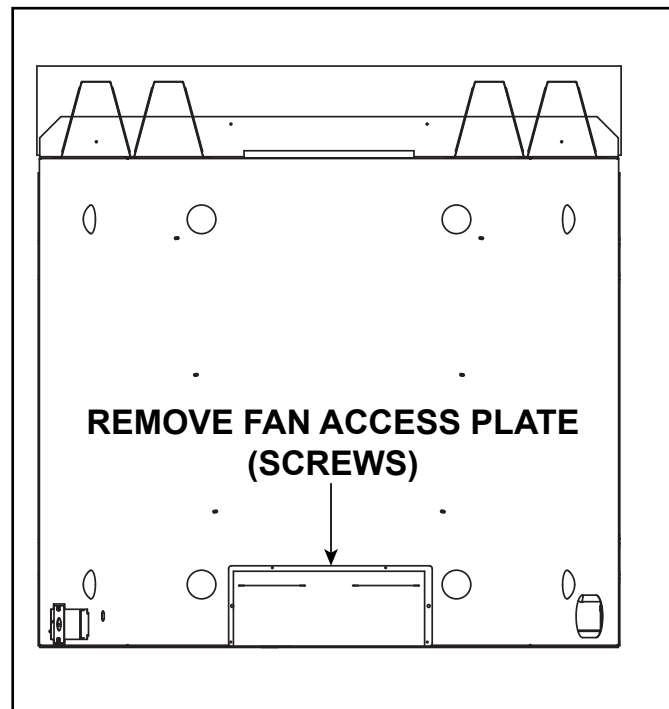

Figure 8.5 Remove Fan Access Plate
- Remove the screws on the fan access plate on the back of the appliance. See Figure 8.5.